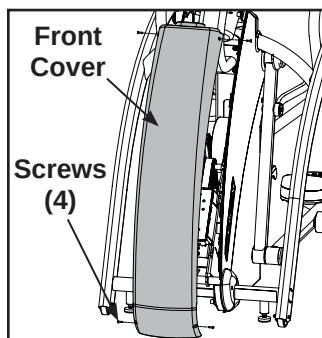

Figure 5
- A. Using a Phillips screwdriver, remove the four screws securing the front cover. See Figure 5.